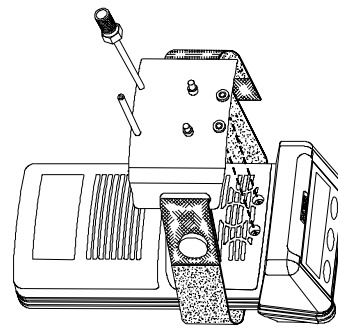

Figure 2-6.
- a. Align the screw heads in the Cap with the holes for the sensor cover screws (FIGURE 2-6).